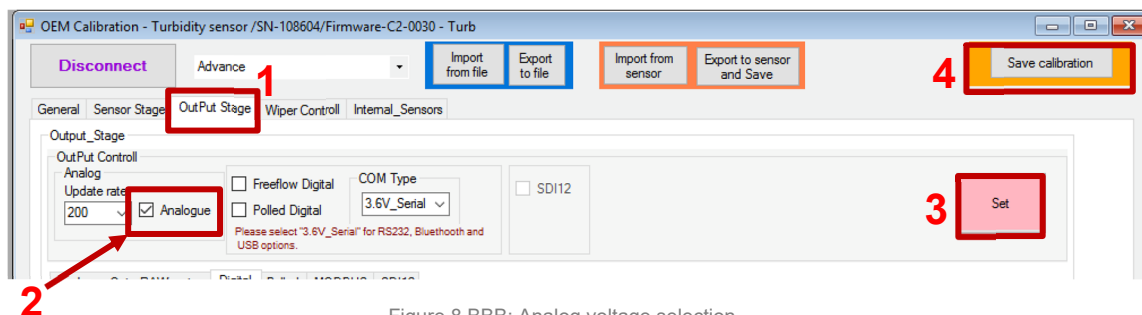

Figure 8.BBB: Analog voltage selection
- Select “OutPut Stage” option (Figure 8.BBB: Analog voltage selection#1).
- Select the “Analog voltage” option (Figure 8.BBB: Analog voltage selection#2).